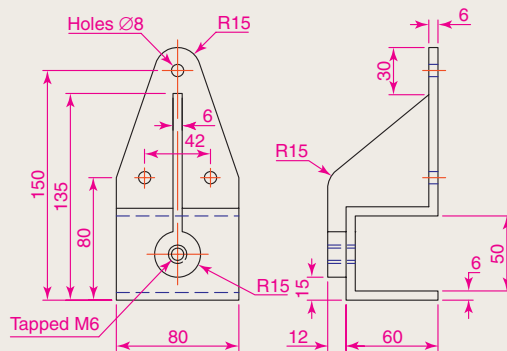

Fig. 12.52 Exercise 6
6. Construct a 3D solid model of a bracket working to the information given in Fig. 12.52.